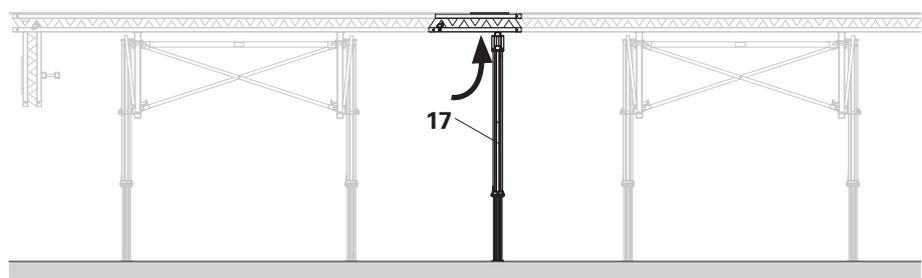

Fig. A4.03
4. Swivel up the pre-assembled element, position the MP prop (17) and spindle out until required height is reached. (Fig. A4.03)